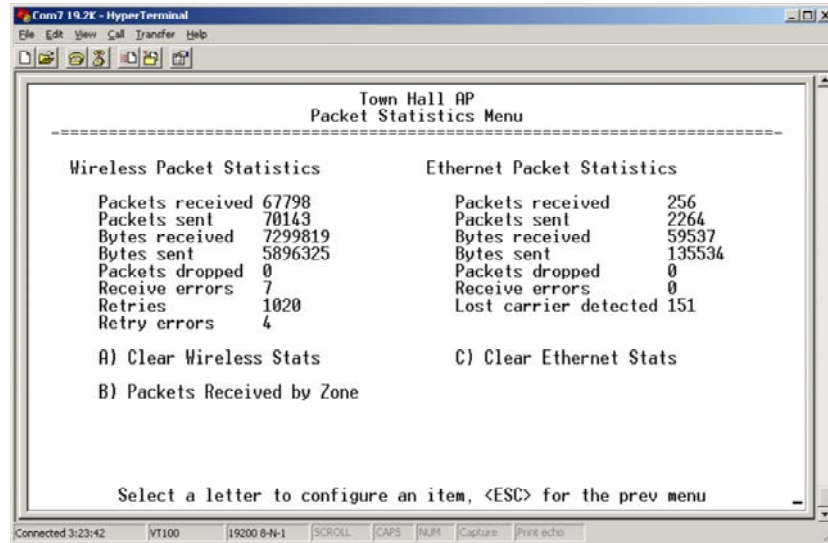
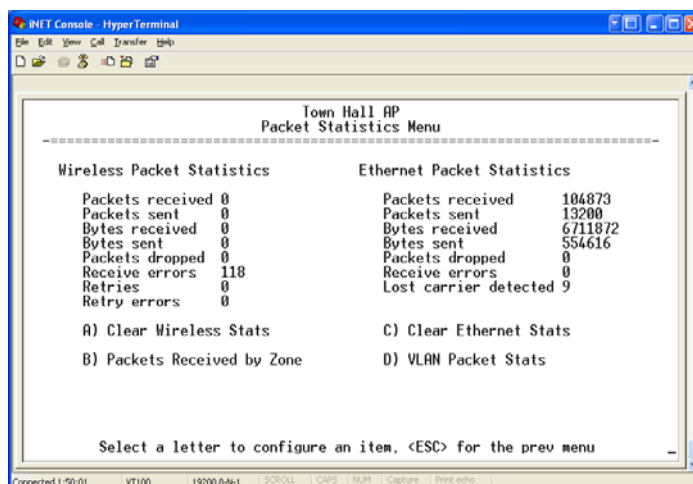

Figure 2-63. Sample Packet Statistics Menu
Figure 2-64. Sample Packet Statistics Menu
- **Wireless Packet Statistics** (when VLAN is shown)—A screen almost identical to Figure 2-63 is shown, except that option D (VLAN Packet Stats) appears as in Figure 2-64 on Page 75.